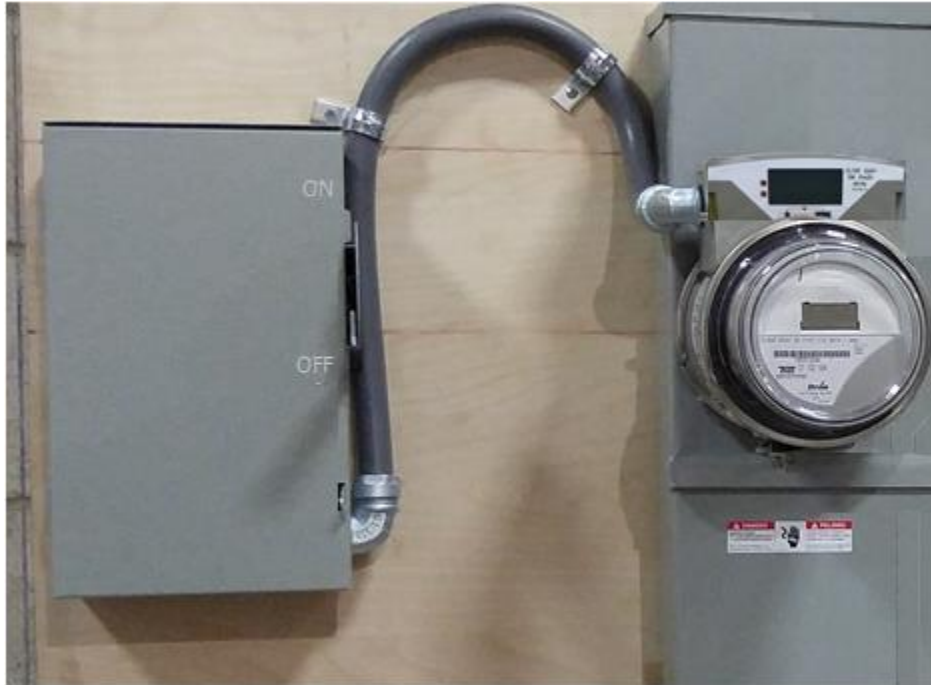

FIGURE 20
8. Use 90-degree connectors on the ends of the raceway where practical. Strap the raceway securely to the mounting surface as shown in **FIGURE 20** to minimize inadvertent or intentional contact with the raceway.